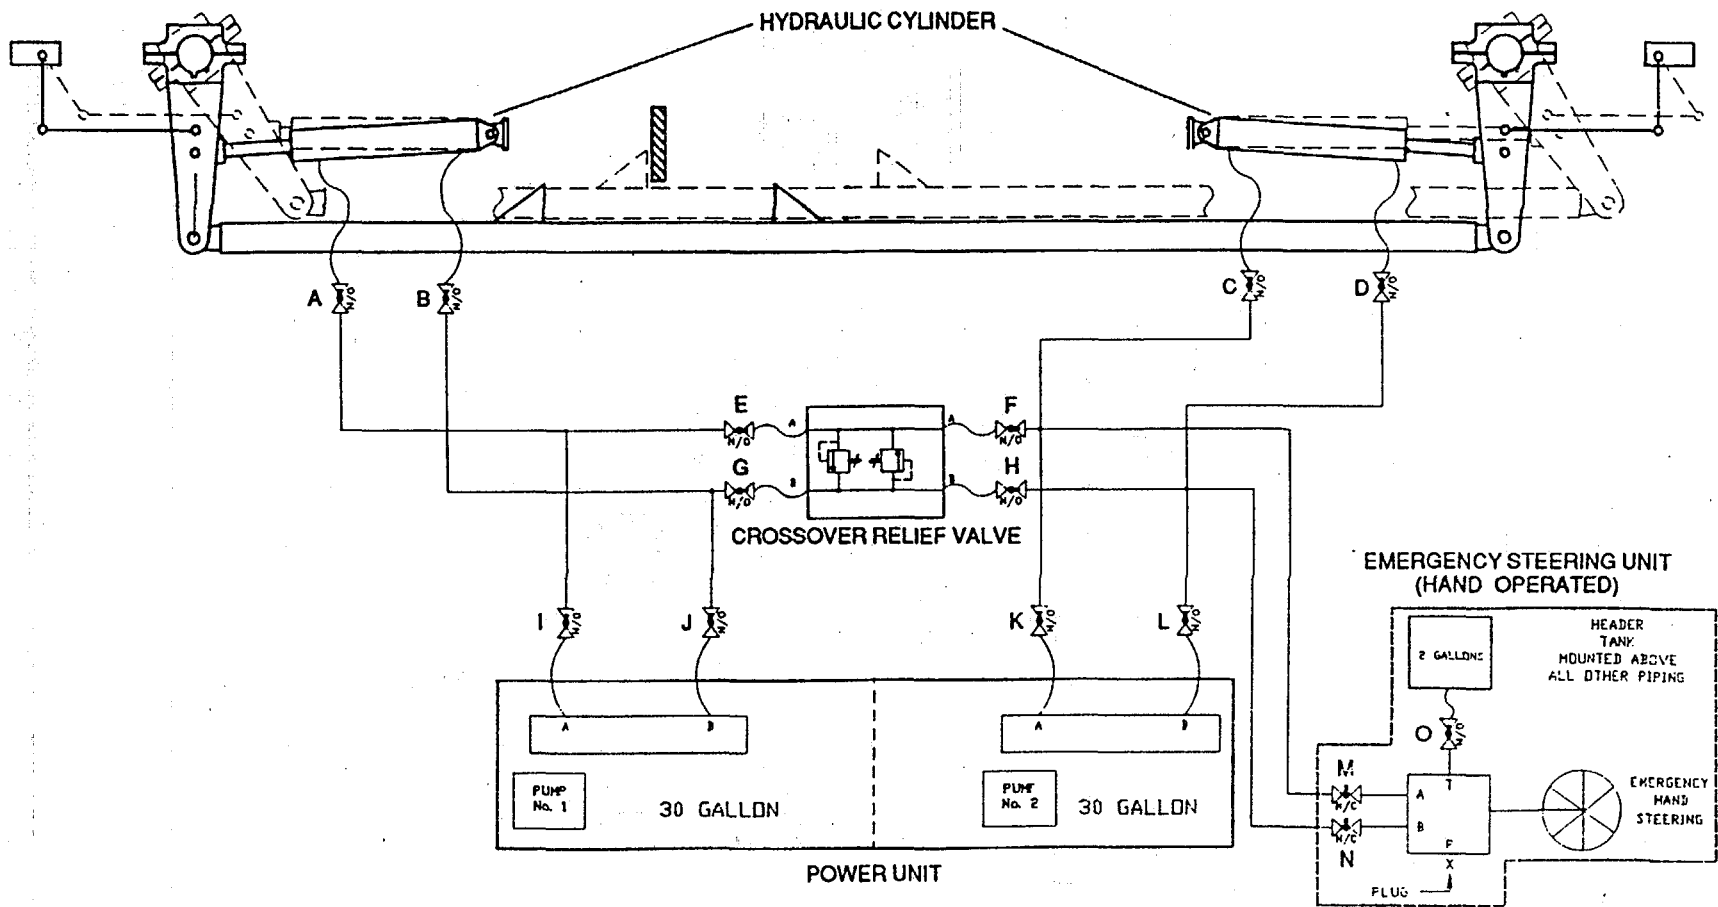

FIGURE 2-149.1. Steering Gear Hydraulic Piping System
a. Steering System Preparation Procedures. Align Steering Gear Hydraulic Piping System (FIGURE 2-149.1) as follows:
- (1) Close all valves in the steering gear hydraulic steering gear piping system.
- (2) Open valve B, LOCK VLV-PORT STRG RAM.
- (3) Open valve D, LOCK VLV-PORT STRG RAM.
- (4) Open valve C, LOCK VLV-STBD STRG RAM.
- (5) Open valve A, LOCK VLV-STBD STRG RAM.
- (6) Open valve G, UNIT No. 1 ISLN.
- (7) Open valve H, UNIT No. 2 ISLN.
- (8) Open valve E, UNIT No. 1 ISLN.
- (9) Open valve F, UNIT No. 2 ISLN.
- (10) Open valve I, Pump Unit No. 1.